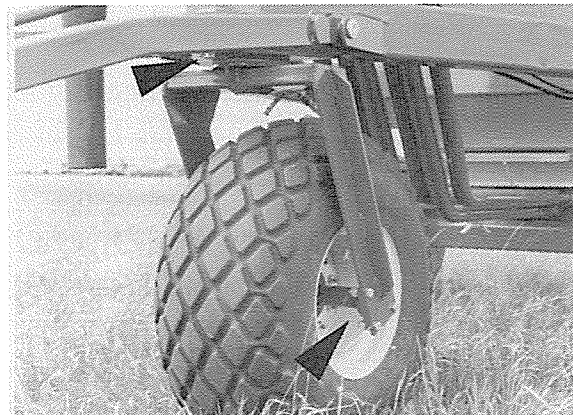

Figure 34
- (a) Grease Castor Fork 2 places. (See Fig. 34).
- (b) Castor fork axle bearings 2 places. (See Fig. 34).